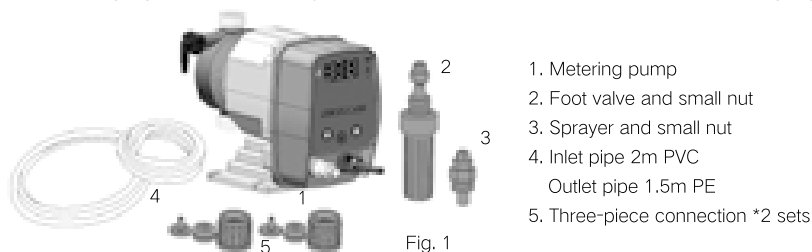

Fig. 1
**⚠** After opening the package of metering pump, check whether the metering pump is in good condition (as shown in figure 1). If any abnormal situation is found, please do not use it and inform the manufacturer of the relevant situation. Please put the removed packaging materials away from children to prevent them from eating by mistake.